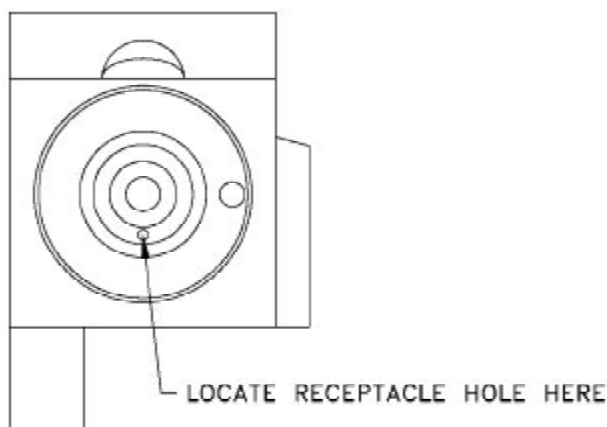

Figure 18: View of Rear Body
- ▶ The bushing has a locator pin pressed into the front. This pin must align with the receptacle hole in the body. (See figure 18 below).